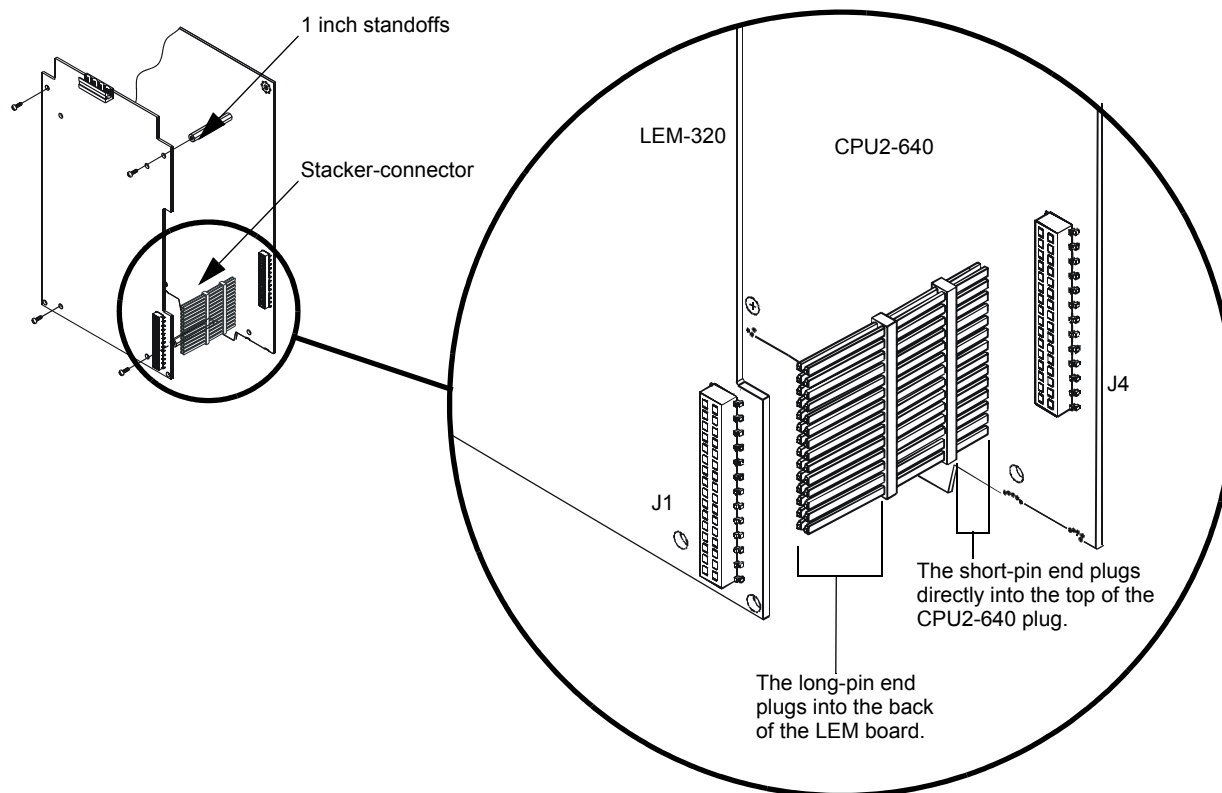

Figure 3.12 Mounting LEM-320 with the Stacker-connector
Installing a Loop Expander Module adds a second SLC loop to the control panel. Refer to Figure 3.12 for stacker-connector illustrations.
2. Align the LEM with the four 1 inch standoffs and the stacker-connector as shown in Figure 3.12; firmly seat the stacker-connector.
For the SLC to function correctly, the stacker-connector must be installed as shown in Figure 3.12. **Do not install other option modules on top of the LEM-320.**